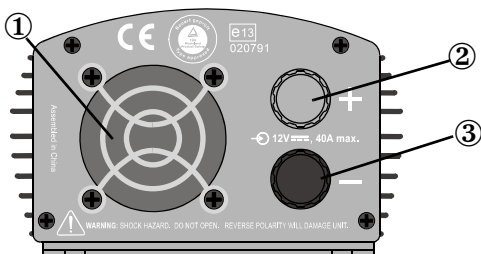
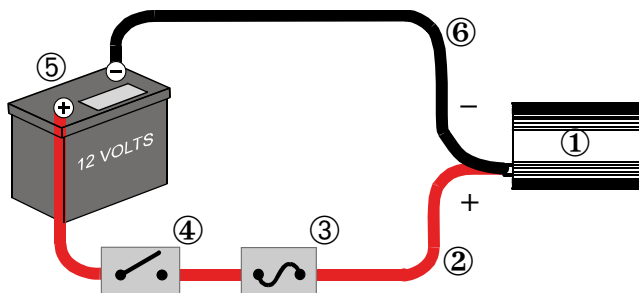

Figure 5 DC Panel on the XPower 300
Figure 6 Hardwiring the XPower 300 to a 12 Volt Battery
Fan The fan (see Figure 5) turns on when an AC load of 100 watts or larger is plugged in.
Your method will depend on the size of the AC loads you want to power. When you connect the inverter, refer to Figure 5 and Figure 6.
For a permanent electrical connection, or when you need to power some loads that are greater than 150 watts and some that are less than 150 watts, you can hardwire the inverter to the battery. This eliminates the need to switch between the battery clip wire assembly and the cigarette plug wire assembly. A hardwired installation is illustrated in Figure 6.
3. Install a 40 amp automotive fuse and a switch rated at 40 amps in the positive (red) wire, close to the end that will attach to the battery. See Figure 6. The switch lets you disconnect the DC power if you need to replace the in-line fuse. Solder and insulate the connections as detailed in Step 2 above.
- If you need to replace the in-line fuse (see Figure 6), turn off the in-line switch to disconnect the DC power.